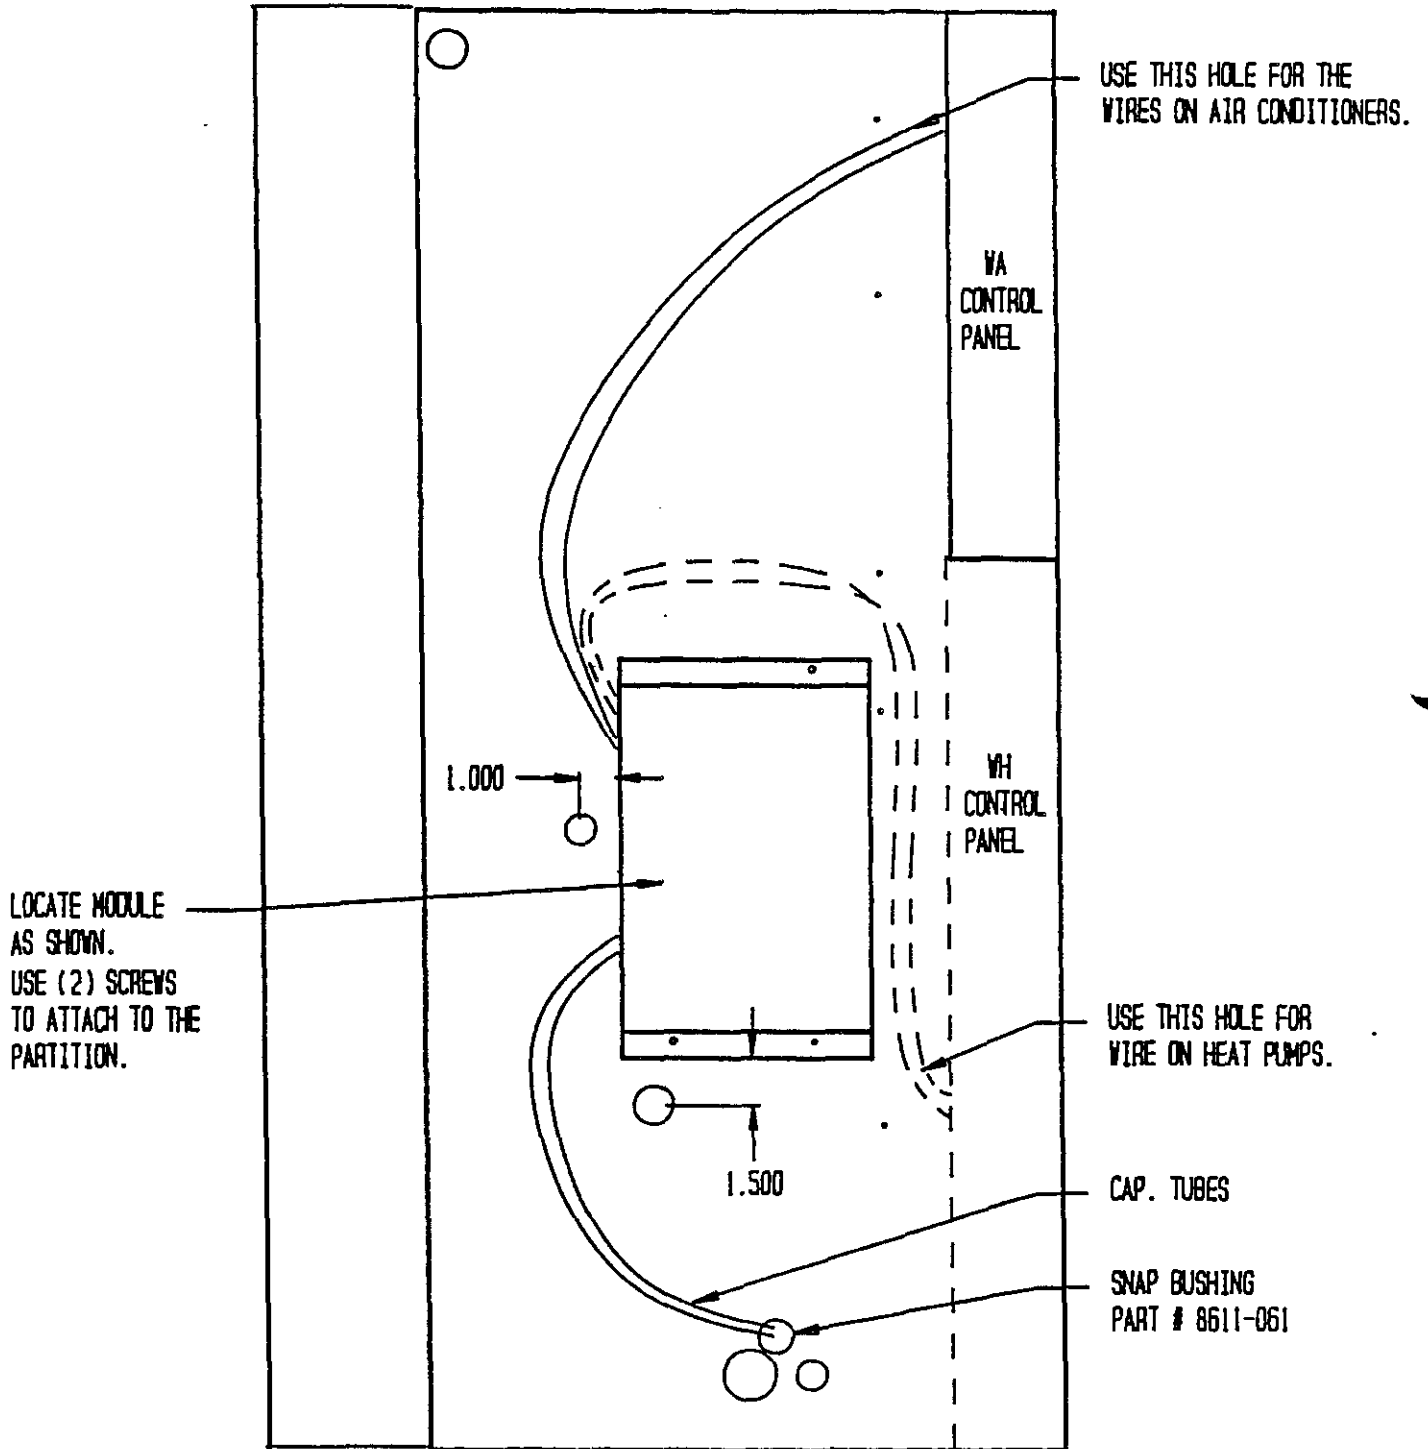

Figure 4.
Install the basic control enclosure to the left of the control panel in the air conditioner models and behind the control panel in the heat pump models. (Figure 4). Secure the control enclosure to the base with (2) #10-16x1/2 screws provided in the hardware bag.